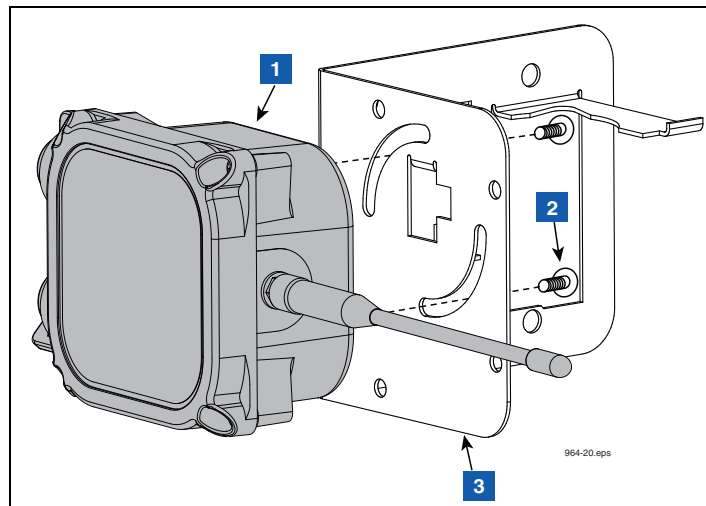

Figure 24. Attaching Transmitter to Battery Support Bracket
3. Using two taptite screws from the kit, attach the Transmitter housing to the side of the battery support bracket that has the two circular slots (see Figure 24). Do not tighten screws at this time.
LEGEND FOR NUMBERED BOXES IN Figure 24